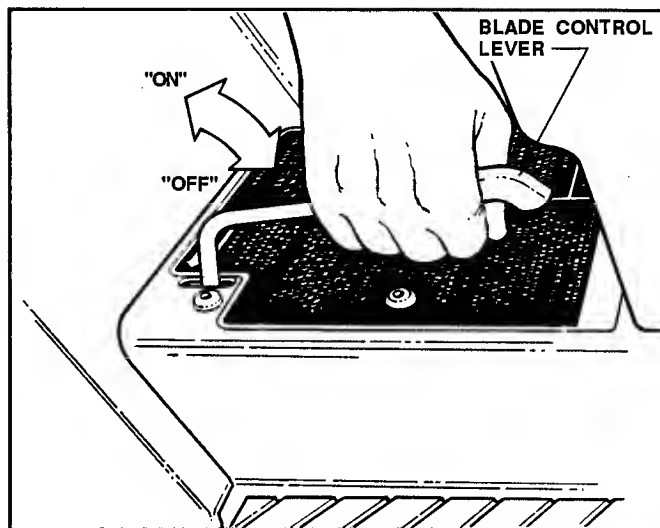
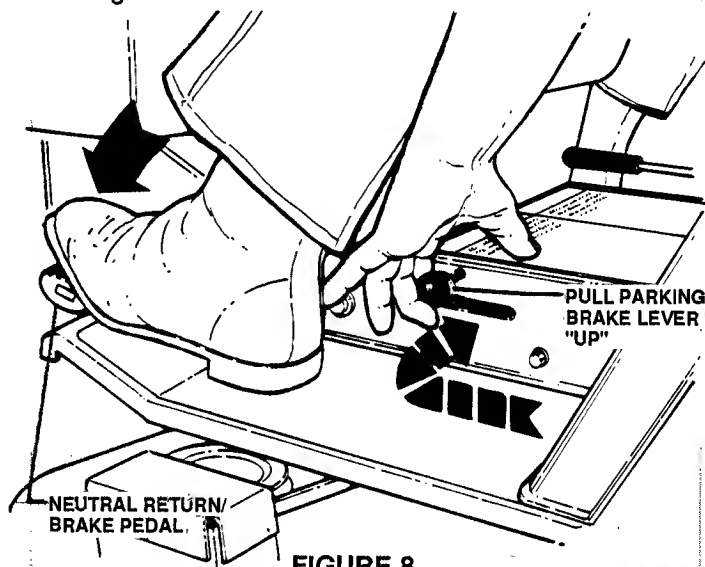

FIGURE 4
FIGURE 8
**MOWER BLADE:** *STOP MOWER BLADE* by pushing BLADE CONTROL lever downward to "OFF". See Figure 4.
- RE-ADJUST SEAT as needed to most comfortable position. (Refer to Pages 5 & 6, Figure 8).
1. PUSH BLADE CONTROL LEVER downward to "OFF" position (Fig. 4) and fully depress the NEUTRAL RETURN/BRAKE PEDAL (Fig. 8), so that Safety Interlock System will allow engine to start.
Depress NEUTRAL RETURN/BRAKE PEDAL. Pull PARKING BRAKE LEVER "UP" while releasing pedal. See Figure 8.